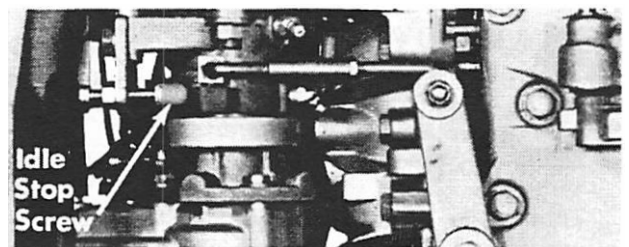

Figure 8. Idle Throttle Stop
6. Check to see that distributor or magneto (Figure 8) has returned to idle stop.